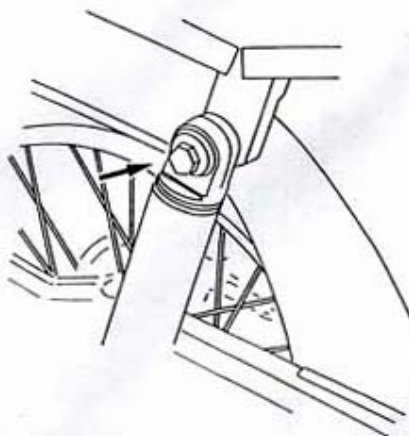

Fig. 2
- Remove the shock absorbers upper mounting bolts (13mm wrench, fig. 2).